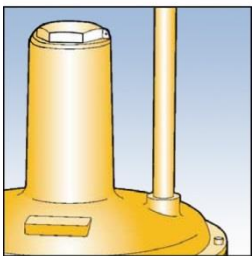

Fig. 3
12. Connect the vent line (½"), using a jointing compound approved to national standards, and lead to atmosphere in accordance with national standards. Ensure that no water can penetrate vent pipe. See Fig. 3.